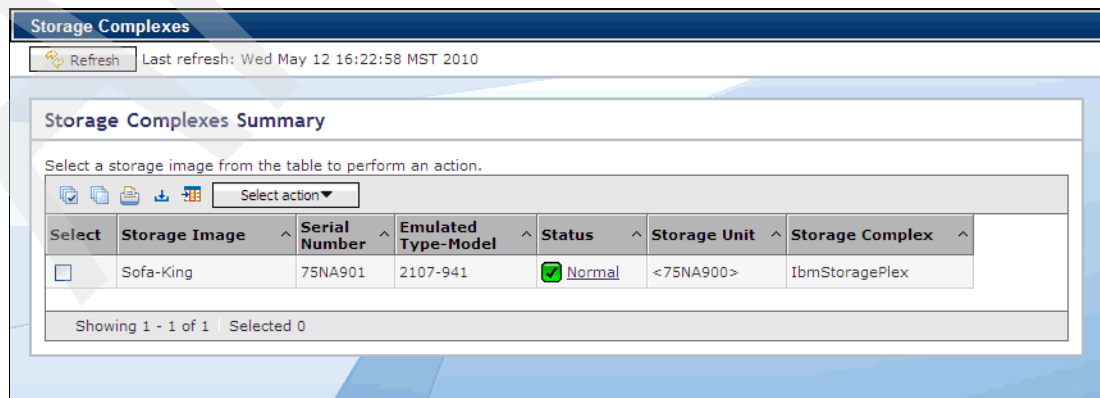

Figure 10-2 DS8700 Storage Manager: Storage Complexes summary
2. Select **Storage Complexes** to open the Storage Complexes Summary window, as shown in Figure 10-2. From here, you can obtain the serial number of your DS8700 storage image.